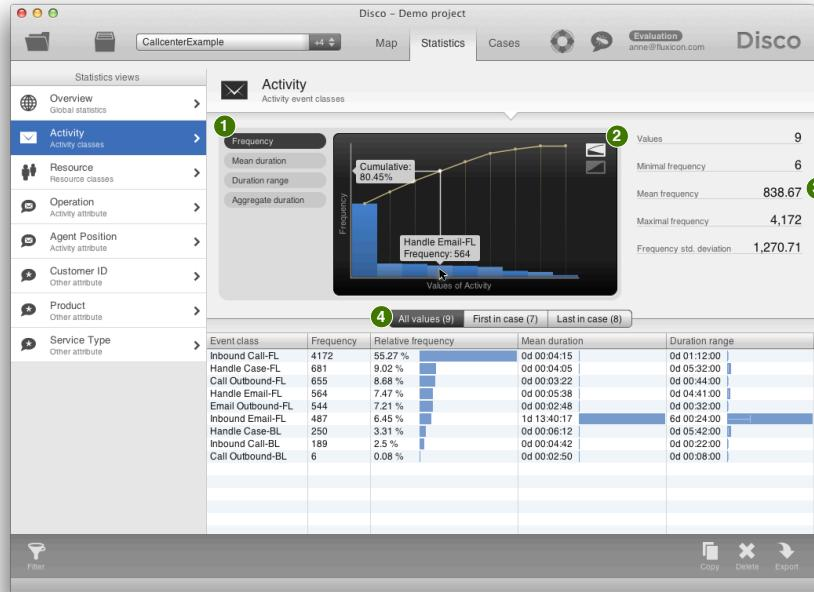
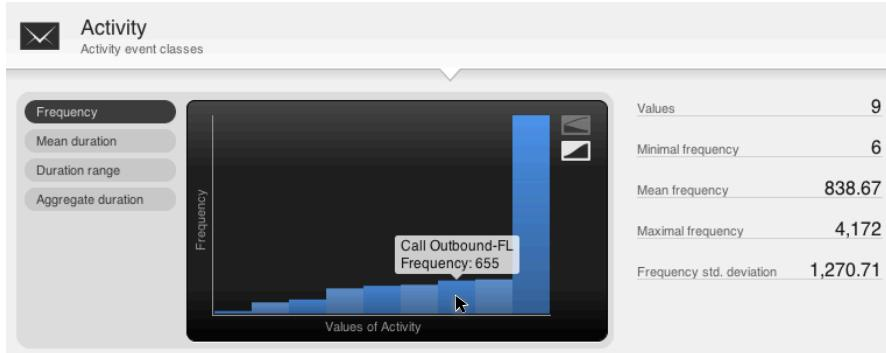

Fig. 4.36. Activity statistics in Disco.
Fig. 4.37. Histogram view of the chart.
Depending on your import configuration, the activity may have been composed out of multiple columns. For example, in the call center example in Figure 4.36, the activity name has been composed from the *Operation* and from the *Agent Position* column to distinguish activities that take place in the frontline and back line. Refer to Section 3.1.4 for how to combine multiple activity columns.
The following information is available in the Activity statistics (Figure 4.36):
- ② All of the charts can be viewed either as a Pareto chart or as a normal histogram. In Figure 4.36 you see the Pareto chart view for the activity frequencies, where like in some of the Global statistics charts (Section 4.2.1) a yellow line is displayed that shows the cumulative, relative sum (how much out of 100%) for the values below. To change to the histogram view, you can press the corresponding symbol in the upper right corner of the chart (②).
- For example, Figure 4.37 shows the alternative histogram view for the same activity frequencies as Figure 4.36.
In fact, in this situation the *Agent Position* attribute has been combined with the *Operation* attribute to form the activity name (Figure 4.36). Although *Agent Position* is used as part of the activity name here, each of the combined columns is still